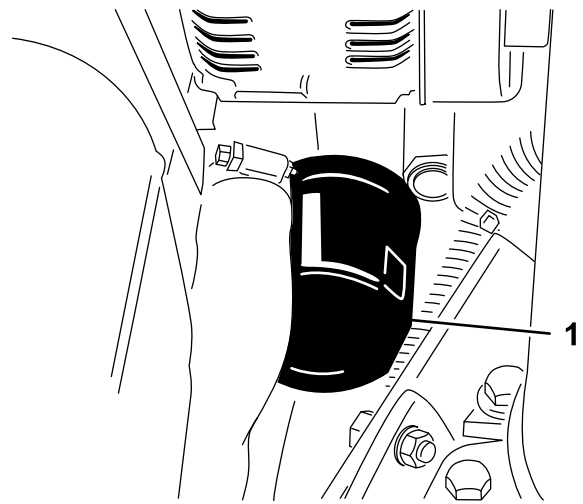

Figure 50
3. Remove the oil filter (Figure 50).